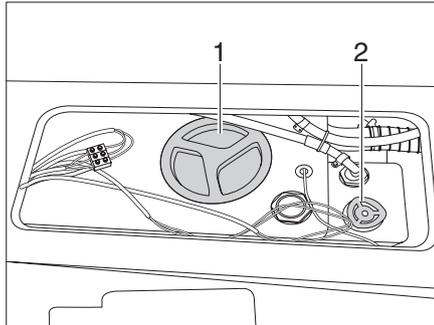
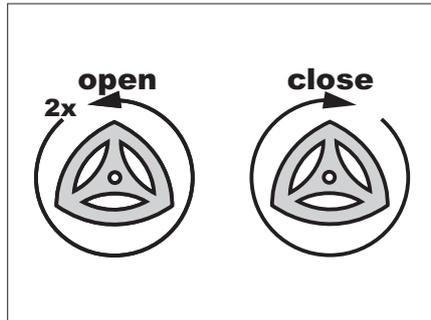

Fig. 94 Water tank
Fig. 97 Water tank fill - drain
There are 2 caps (Fig. 94,1) at the water tank.
- ▶ Turn the adjusting wheel (Fig. 94,2) as far as possible in a clockwise direction. The drainage opening in the water tank is closed.
- ▶ Unscrew the cap (Fig. 94,1).
- ▶ Turn the adjusting wheel (Fig. 94,2) 2 rotations anticlockwise (see also Fig. 97). The drainage opening in the water tank is opened and the water is drained.
- ▶ Screw the cap back (Fig. 94,1) onto the water tank.
- ▶ Turn the adjusting wheel (Fig. 94,2) $\frac{3}{4}$ of a rotation anticlockwise.
- ▶ Turn the adjusting wheel (Fig. 94,2) 2 rotations anticlockwise.